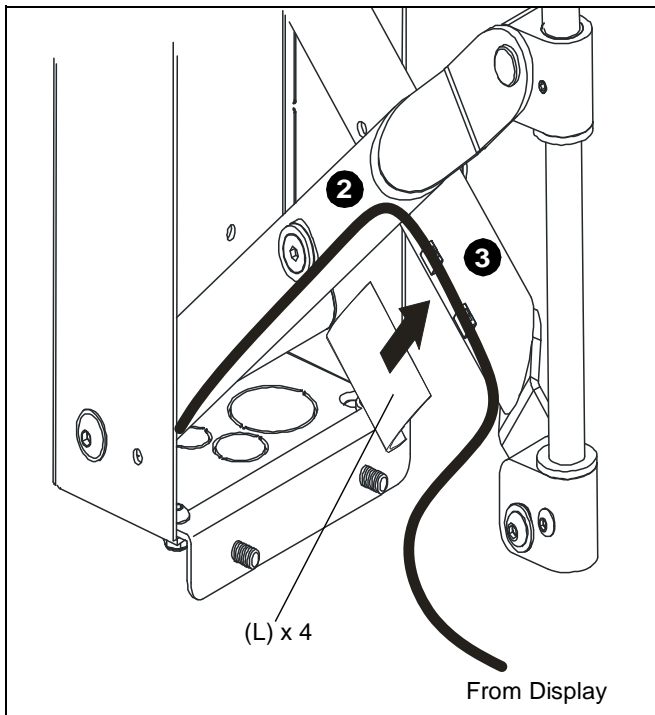

Figure 13
2. Route cables down arms on mount. (See Figure 13)
3. Position cable covers (L) over arm and cable and press cable covers (L) down on to arms to secure cables. (See Figure 13)